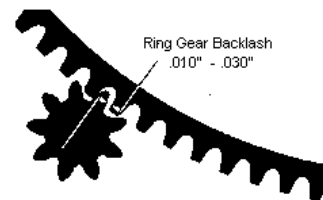

Figure 3
6. Check ring gear clearance and backlash (figures 3 and 4). Add shims and/or spacers to starter if necessary to obtain proper clearance.
(See figure 3)